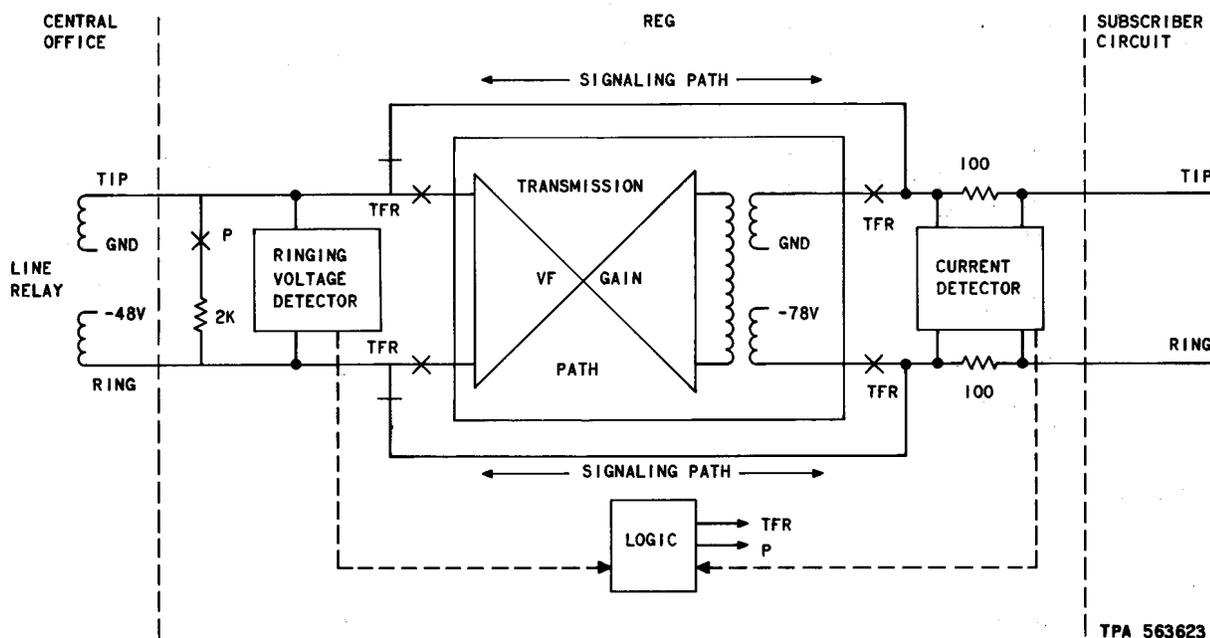

Fig. 17—Range Extender Circuit Showing Transmission and Signaling Paths
**6.130** Fig. 17 shows how tip and ring are connected straight through the REG in the signaling mode when the transfer relay (TFR) is in its normal position. The voltage between tip and ring and the loop current are monitored by voltage and current detectors whose shunt resistance is very high. The two 100-ohm series resistors in the loop current detector represent a small fraction of the total loop resistance. These series resistors are used as part of both the loop current detector and the line build-out (LBO) network. The LBO network provides a means of extending the subscriber loop end-section by providing the proper impedance match for the repeater. The LBO settings are made on a prescription basis. This eliminates the need for a gain or return loss measurement on the transmission circuit.
- (1) The range of ringing signals is not increased by the REG (Fig. 17). To use the REG to its designed limit (2800 ohms), the 10A extender may be used to insure proper ringing operation.
- (2) Current passes through the loop when the subscriber goes off-hook. The P relay operates [6.131(2)]. The operated P relay provides ringing trip during either the silent or ringing interval and prepares the circuit for supervision on the call.
- (3) The voice frequency repeater is connected into the conductor loop [6.131(4 and 5)].
- (4) Current, initially drawn through the P relay and 2000-ohm resistor, now passes through the repeater and supervision is provided.
- (5) When the call terminates, the TFR relay releases, transferring the circuit back to the signaling path.
**6.133** In the transmission mode, the REG provides two-way voice frequency amplification by means of a negative impedance amplifier. Fig. 17 shows how the voice frequency gain unit is inserted in the loop when the TFR relay is operated. The gain unit remains in the loop during dialing and talking if the subscriber has a TOUCH-TONE dial. The voice frequency repeater is powered by the -48 volt talking battery in the central office during voice transmission. Each REG unit draws approximately 30mA from the -48 volt talking battery. To bring the subscriber loop current into the range specified to power the station transmitter, the REG is furnished with an additional -48 volt dc input. Each REG unit draws 10mA at idle and 30mA in operation from this second -48 volt supply. The additional voltage of the -48 volt dc input powers the REG logic and the supplemental power supply. The supplemental battery adds -30 volts to the -48 volts of the central office battery. This brings a total of -78 volts to the subscriber loop. The supplemental battery serves up to 165 REG units.